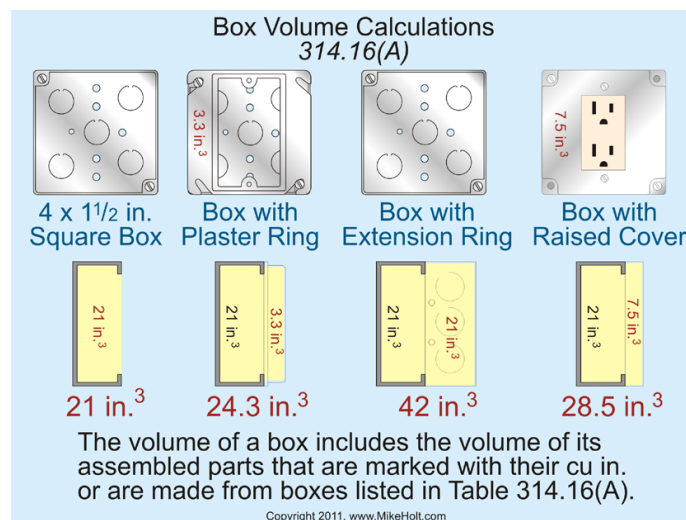

Figure 5-29
Boxes must be of sufficient size to provide free space for all conductors. An outlet box is generally used for the attachment of devices and luminaires and has a specific amount of space (volume) for conductors, devices, and fittings. The volume taken up by conductors, devices, and fittings in a box must not exceed the box fill capacity. The volume of a box is the total volume of its assembled parts, including plaster rings, industrial raised covers, and extension rings. The total volume includes only those parts that are marked with their volumes in cubic inches [314.16(A)] or included in Table 314.16(A) of the NEC. **Figure 5-29**